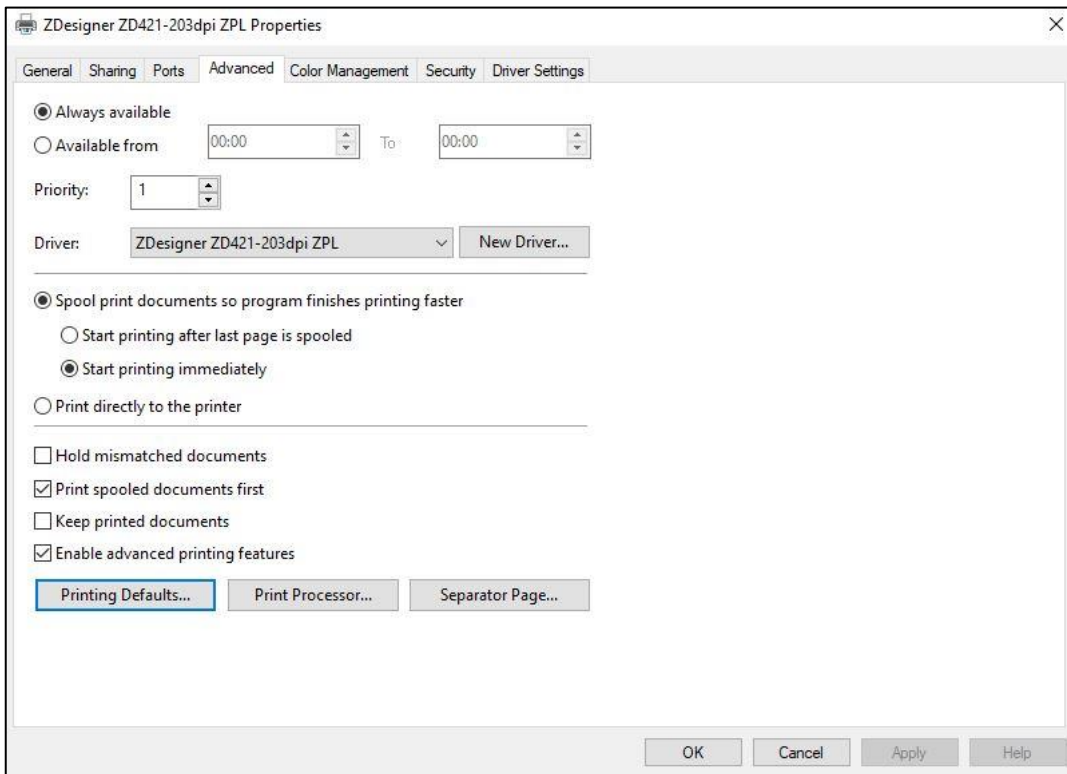

Figure 4: Printing Defaults
- Figure 4: Printing Defaults3